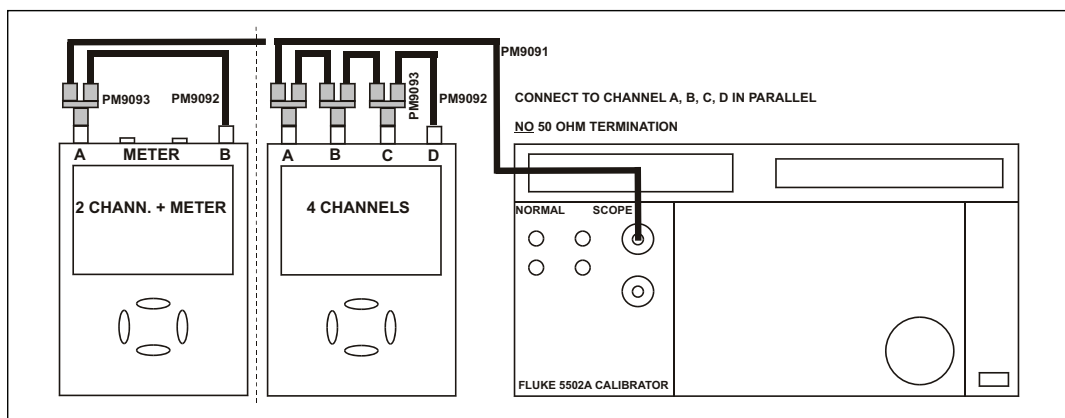

Figure 4-5. 5502A Scope Output to Test Tool Input A, B, C, D
1. Connect the Test Tool to the 5502A as shown in Figure 4-5. Do not use 50 Ω terminations.
1. Connect the Test Tool to the 5502A as shown in Figure 4-5.